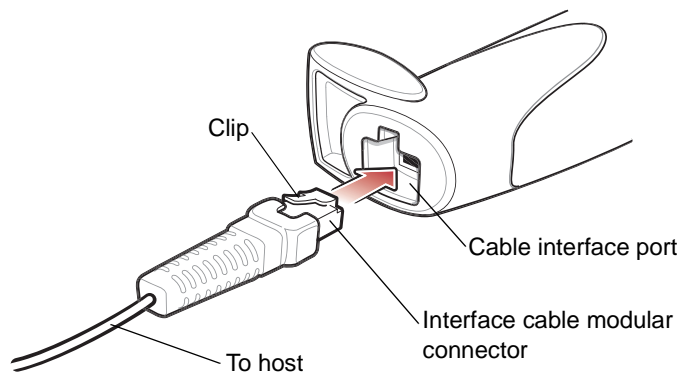
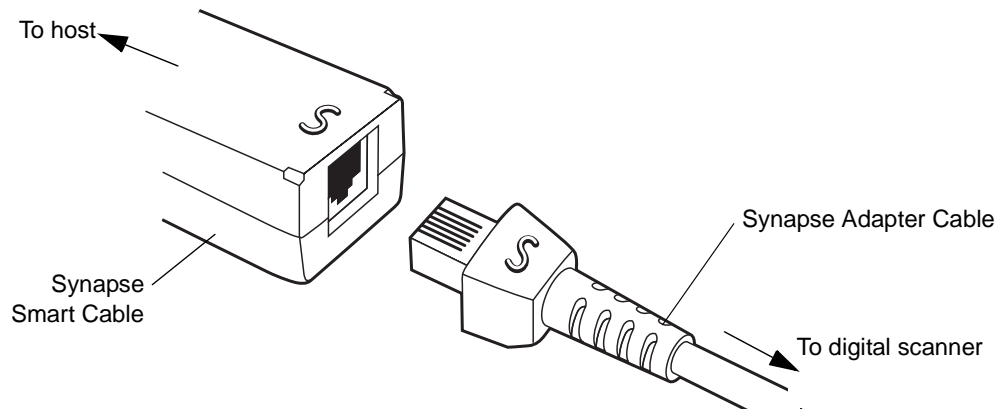

Figure 1-3 *Installing the Cable*
Figure 1-5 Synapse Cable Connection
1. Plug the interface cable modular connector into the cable interface port on the bottom of the scanner handle (see Figure 1-3).
2. Move the scanner forward until there is full access to the cable interface port on the bottom of the scanner. See Figure 1-3 or Figure 1-5.